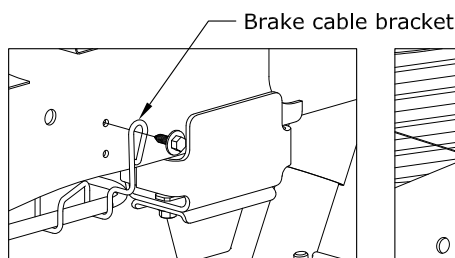

Figure C1: View from outside of Driver Side Frame.
- 1. Prepare to install sideplates.** Before installing the sideplates it is necessary to temporarily remove a brake cable bracket on the driver side of the frame, See Figure C1. The M8 bolt will be needed to re-attach the bracket in a later step.